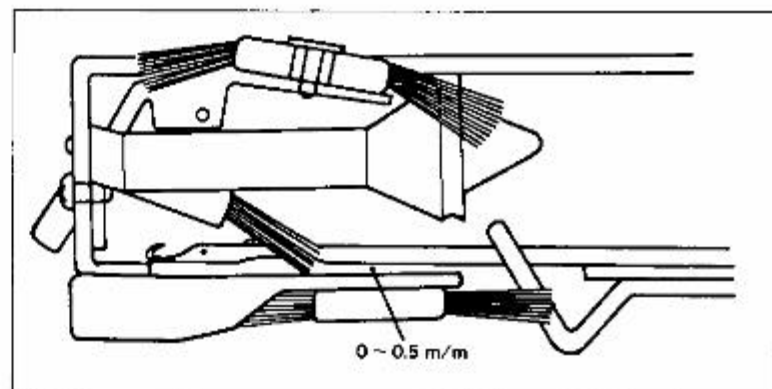

Fig. 5-3
* Vertical adjustment of the sinker plate. (Fig. 5-3).